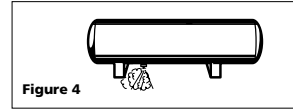

Figure 4
- 2. Drain moisture from tank by opening drain valve underneath tank. Tilt tank to remove all moisture. See Figure 4.